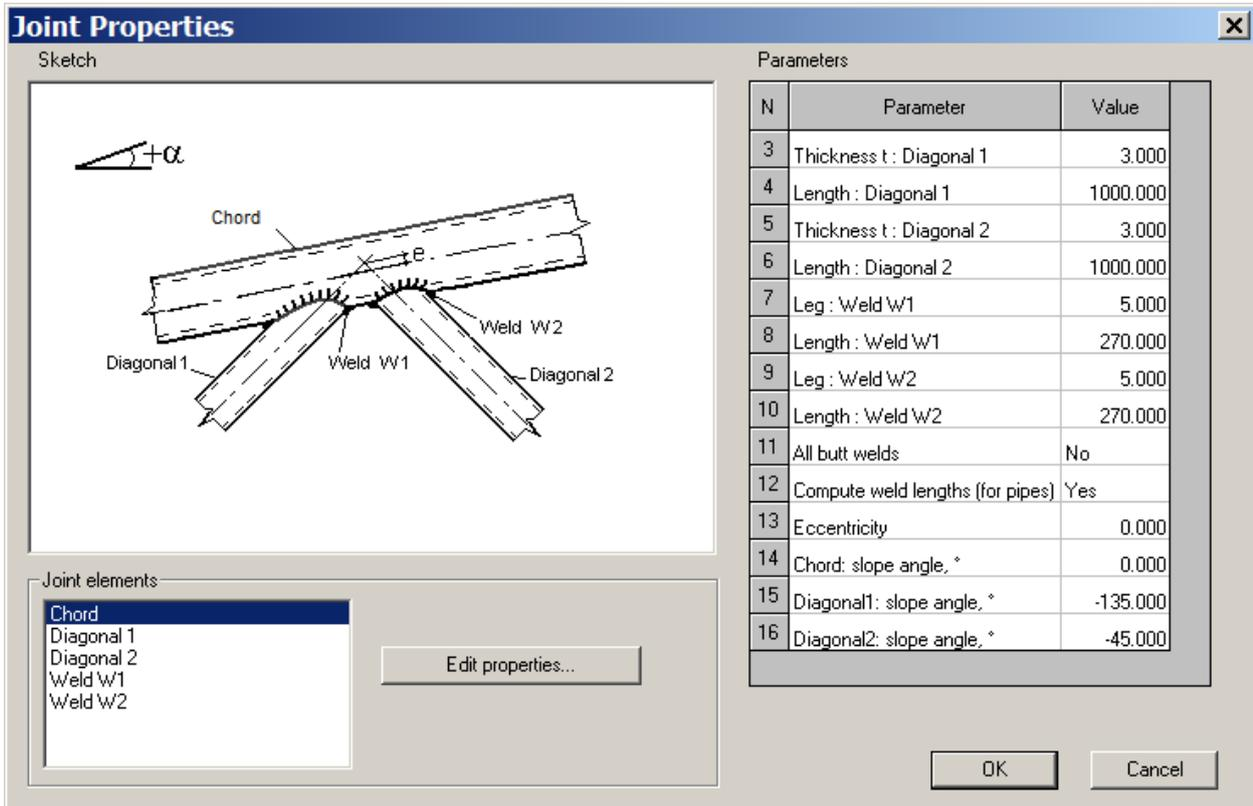

Figure 12.8 Joint properties dialog box
- ⇒ In the **Joint properties** dialog box (see Fig.12.8), define sections and steel grade for element of the truss as well as lengths of elements and their slope angles.